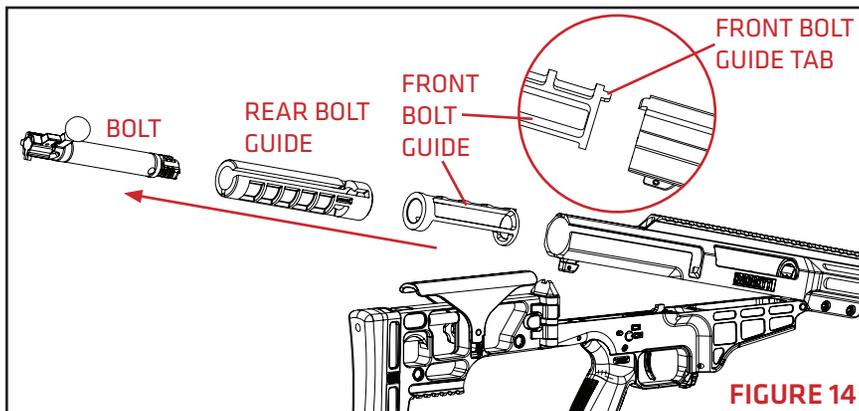

FIGURE 14
- Withdraw the bolt assembly, rear bolt guide, and the front bolt guide from the rear of the upper receiver. Take note of the orientation of the bolt guides while removing. The front bolt guide has a tab that protrudes forward. This tab orients at twelve o'clock position in a slot in the barrel extension (FIGURE 14).